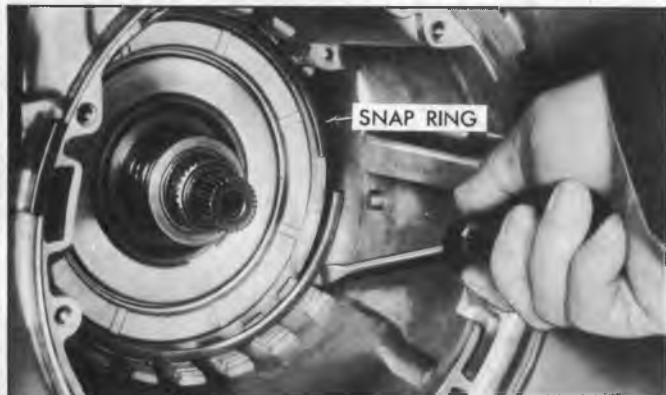

Fig. 131T—Installing Center Support to Case Snap Ring
10. Install center support to case retaining snap ring with bevel side up (flat surface against the center support) and locating gap adjacent to band anchor pin. Make certain ring is properly seated in case (fig. 131T).